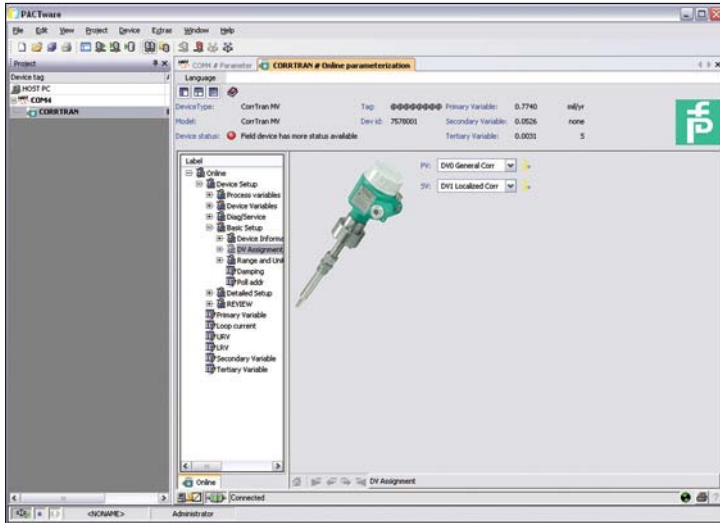

Figure 39. Basic Setup – Device Variable Assignment
- 'Range and Units': allows you to configure the PV units and range, when general corrosion is assigned as the PV. Figure 39 displays the 'Range and Units' window.